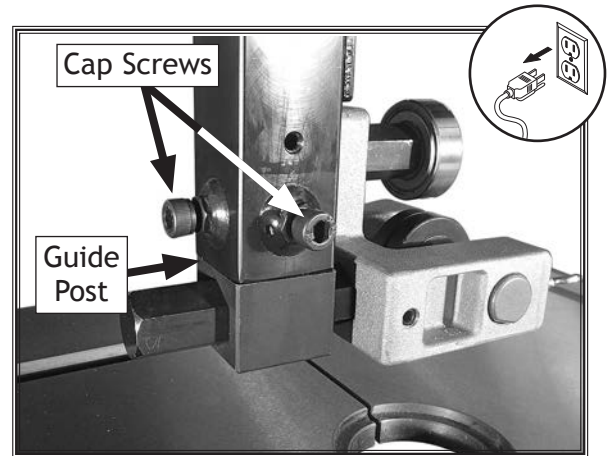

Figure 50. Location of cap screws for removing "Euro-style" roller discs.
3. Loosen two cap screws on guide post that secure upper blade guide assembly, as shown in **Figure 50**, and remove upper "Euro-Style" roller-disc guide assembly.